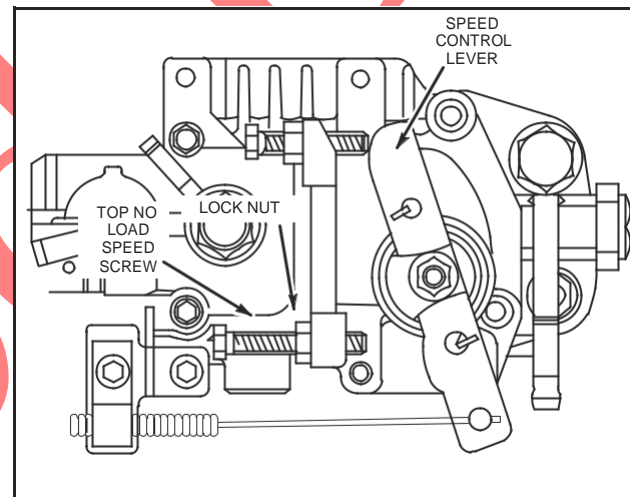

Fig. 24 – Adjusting Top No Load Speed
3. Move speed control lever to FAST position and adjust top no load speed screw to RPM specified by model and type number shown in chart, Fig. 24.